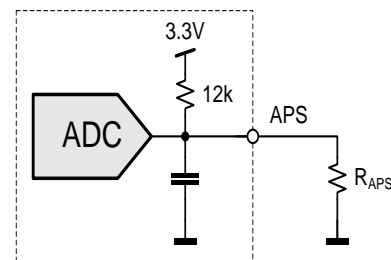

Figure 21. I2C address and Protocol Setting
1) E12 resistor values, use max 5% resistors, see also Figure 21.